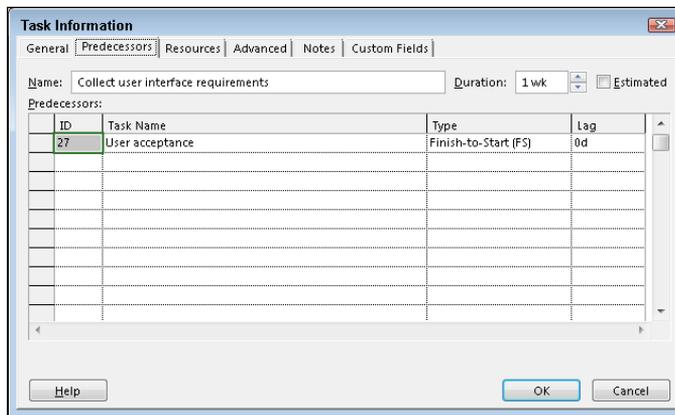

Figure 17-8:
- ✔ **Adjust dependencies.** Perhaps the revision of the manual can start a few days before *all* the feedback is returned. Or perhaps the electrical and plumbing chores can take place at the same time rather than one after the other (assuming that the electrician and the plumber can stay out of each other's way). Use the Predecessors tab in the Task Information dialog box, shown in Figure 17-8, to modify dependencies. In the Lag column, you can enter a negative number to allow tasks to overlap.